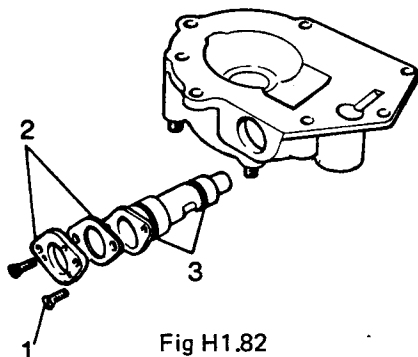

Fig H1.82
- (2) Refer to Fig H1.82. Remove the two screws (1) that fix the retaining plate of the speedometer pinion.
- (3) Remove the fixing plate and washer (2).
- (4) Remove the pinion sleeve and the pinion (3).